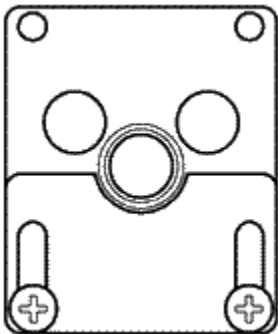

Figure 10. Aeration shutter setting
- The aeration shutter is factory set. It is important to ensure that the aeration setting is correct. Check the aeration shutter setting (See figure 10). To adjust the aeration setting, loosen the two aeration shutter screws, slide the aeration shutter to the position shown in figure 10 and tighten the fixing screws.